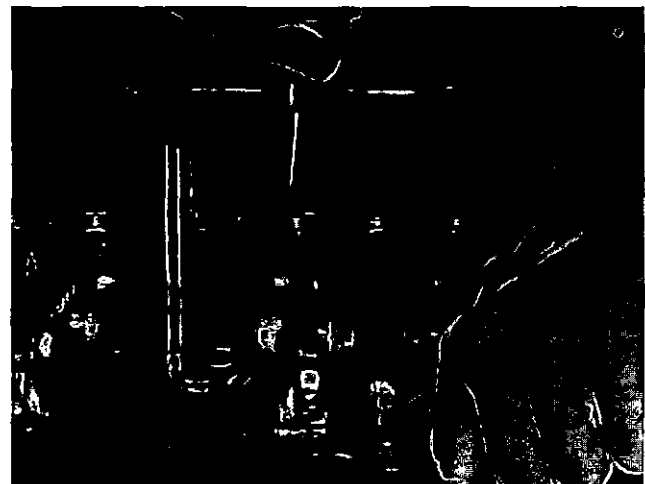

Fig. 5-35, N114215. Adjusting valves
2. Loosen locknut and back off the adjusting screw. Insert feeler gauge between rocker lever and crosshead. Turn the screw down until the lever just touches the gauge and lock the adjusting screw in this position with the locknut. Fig. 5-35. Tighten locknut to 30 to 40 ft-lb [4.1490 to 5.5320 kg m] torque. When using ST-669 torque to 25 to 35 ft-lb [3.4575 to 4.8405 kg m].